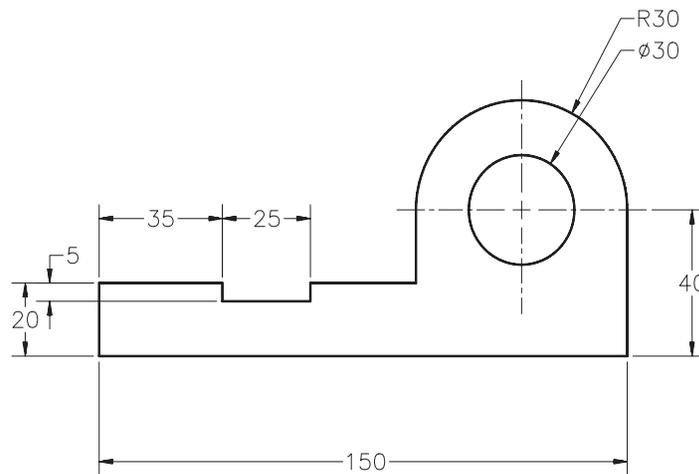

Figure 19-40 Sketch for Tutorial 1
In this tutorial, you will open the sketch created in Tutorial 3 of Chapter 2, add dimensions to the sketch, as shown in Figure 19-40, and extrude the sketch up to a depth of **50 mm**. Then, you will add equations to the dimensions of the sketch. The dimension **150** will be the driving dimension. While adding equations, you can change the vertical dimensions **20** and **40** to **25** and **50**, respectively, for the convenience of calculation. **(Expected time: 30 min)**
- Add relations and dimensions to fully define the sketch, refer to Figure 19-40.